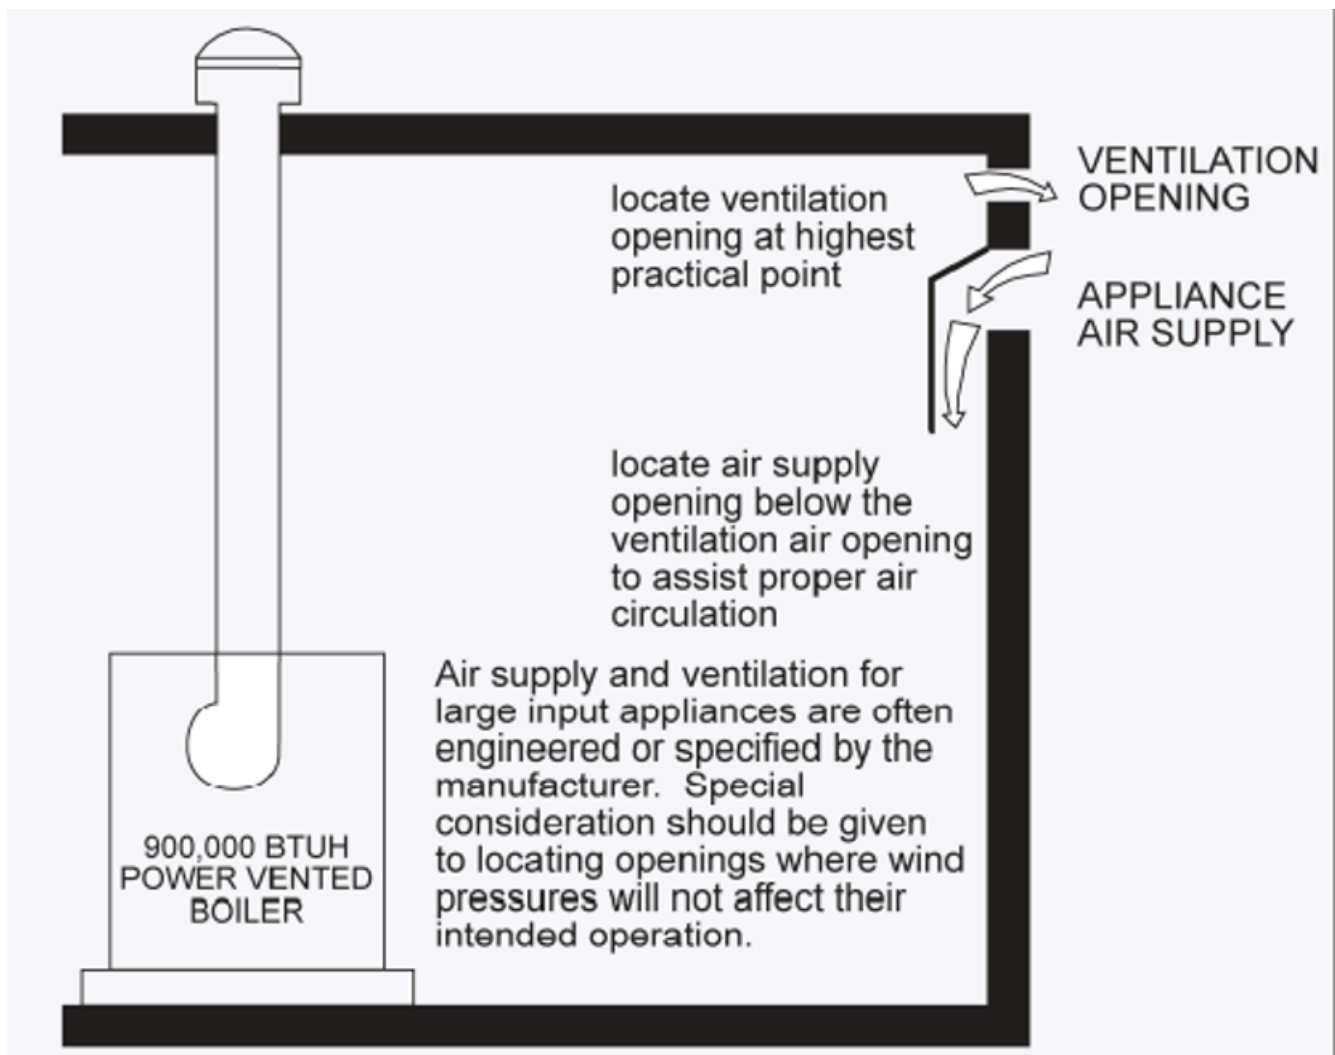

Figure 12. Outside air openings for large volume power burner
Recall that when any of the gas appliances in the room are equipped with draft control devices the air supply shall be located not less than 6 in. (150 mm) or more than 18 in. (450 mm) above the mechanical room floor. Whereas if none of the gas appliances are equipped with draft control devices then the air supply opening may be located anywhere in the mechanical room, if it does not interfere with the performance of the ventilation air opening (Figure 12).
- Figure 12. “Outside air openings for large volume power burner” – The source for this image is unknown. It is being used for non-commercial, educational purposes. To receive credit for this image, please reach out to the publisher.